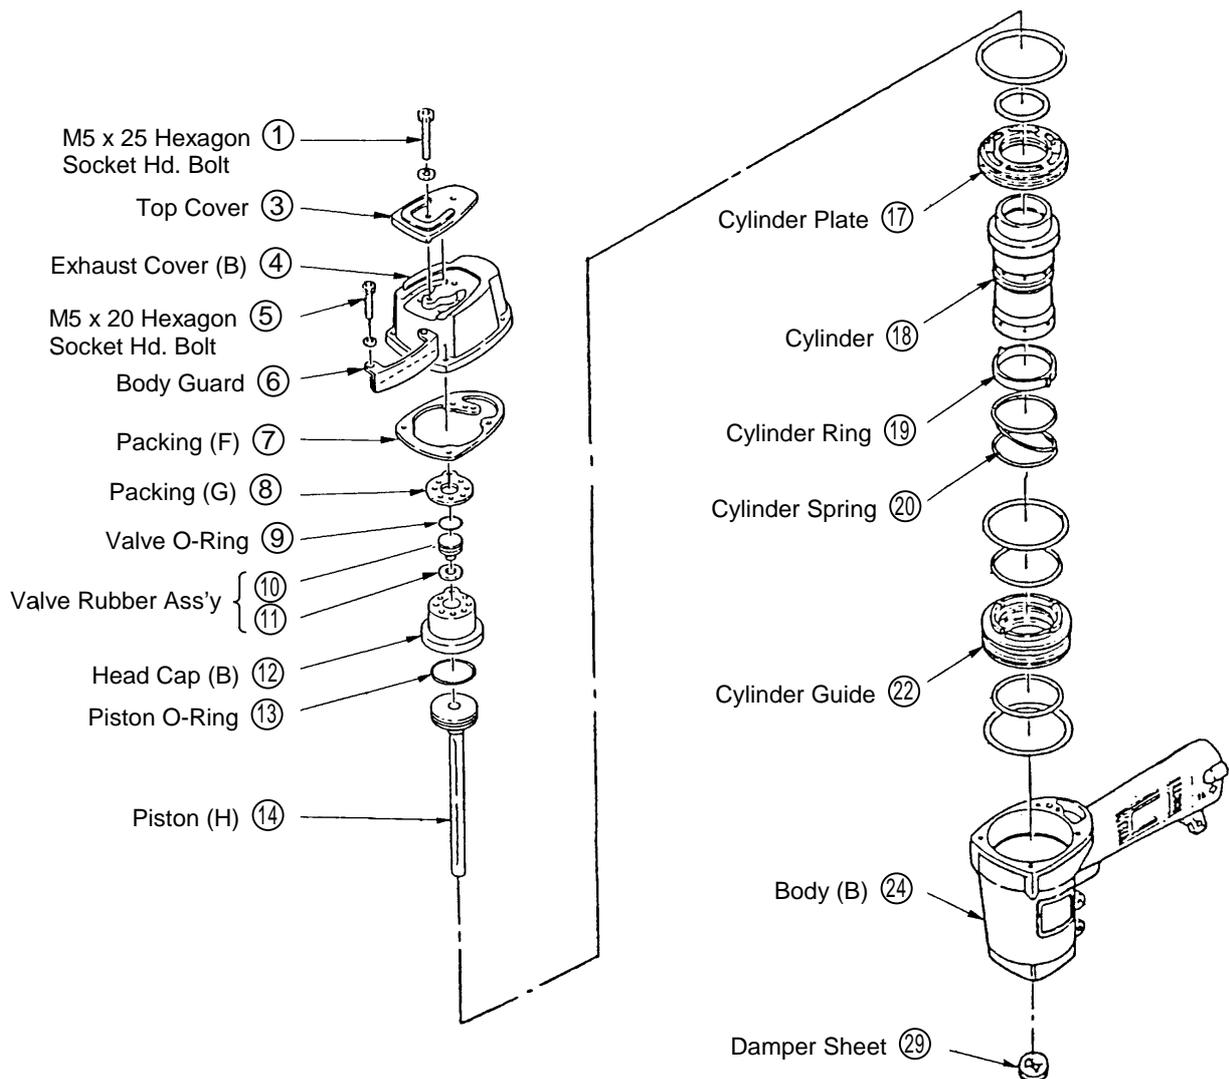

Fig. 12
- Reassemble Packing (A) (30) so that its air vents are properly aligned with the matching air vents on the Tail Cover (63) and Body (B) (24).
- Assemble Body (B) (24), Tail Cover (63), and Magazine Ass'y (107) in accordance with the following procedures:
- (I) First, assemble the Tail Cover (63) and Push Lever (47). Then, fasten Body (B) (24) and the Tail Cover (63) with the four M5 x 16 Hexagon Socket Hd. Bolts (44), and tighten them to rated torque.
- (II) Fasten the Push Lever (47) with the D3 x 30 Roll Pin (45).
- (III) With the Magazine Bushing (71), assemble the Tail Cover (63) and Magazine Ass'y (107) and confirm that they are securely fastened. Then, fasten the Magazine Ass'y (107) to Body (B) (24) with the M5 x 20 Machine Screw (38).
- (2) Cylinder (18), Piston (H) (14) and Related Parts:
- (a) Disassembly: (Refer to Fig. 12)
- As described in Paragraph 1-1- (1), disassemble the Tail Cover portion, and remove Damper Sheet (29) from the Piston Damper (28).
- Assemble Piston (H) ⑭ so that its semi-circular grooved side is facing toward the Magazine side. (Same as Paragraph 1-1- (1) (b))
- Ensure that the air vent holes on Packing (F) ⑦ are properly aligned with the matching holes in Body (B) Ass'y ㉔.
(3) Hard Cap (B) Ass'y ⑫, Valve Rubber Ass'y ⑩, and related parts: (Refer to Fig. 12)